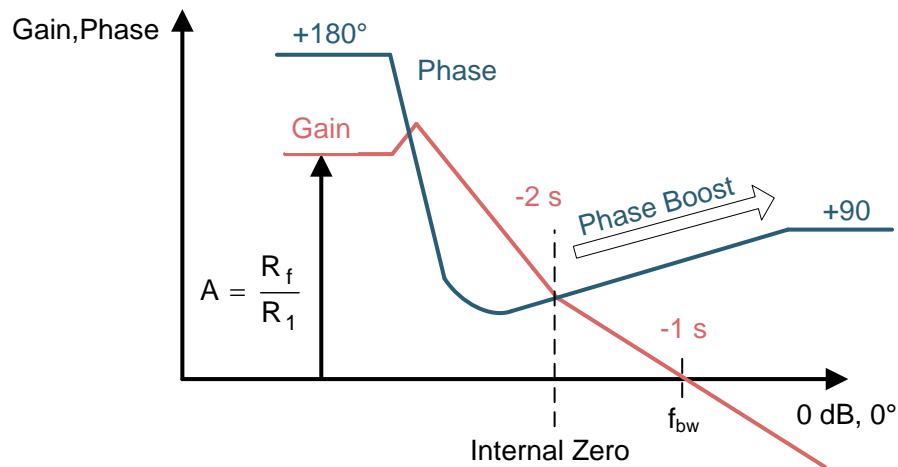

Figure 2. Gain and Phase Movement of D-CAP2™
The TPS54327, a D-CAP2 converter, has an internal, radio-controlled (RC) network for receiving ripple information from the switching node. When the sensed ripple voltage hits the internal reference, high-side FET is turned on and sustained on-time by an internal timing generator. In the frequency domain, the ripple injector generates additional zero which increases gain and boosts phase movement at its zero frequency around. Usually in voltage and current mode control, the phase movement rolls off around bandwidth (BW). The system may operate unstably if there isn't enough phase margin. Loop stability issues should be cleared in the design stage. Alternatively, Figure 2 shows how D-CAP2 mode control has different phase movement around bandwidth (crossover frequency). The output inductor and capacitor set corner frequency and produce 2 poles in the frequency domain. Around corner frequency, the phase margin drops rapidly if the ceramic capacitor is used as the output filter. The phase will then be boosted around bandwidth by internal zero which is made from the IC's ripple injector block.